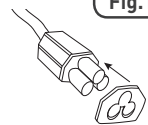

Fig.1
- ⚠ WHEN USING THE HEATER IN AN AREA WHERE IT MAY COME INTO CONTACT WITH WATER, AND TO ENSURE IT'S IP44 RATING IS MAINTAINED - ALWAYS ENSURE THAT THE POWER CABLE HAS THE BLACK FOAM GASKET IN PLACE ON THE CONNECTOR END BEFORE PLUGGING IT INTO THE SLIMLINE HEATER [FIG.1]